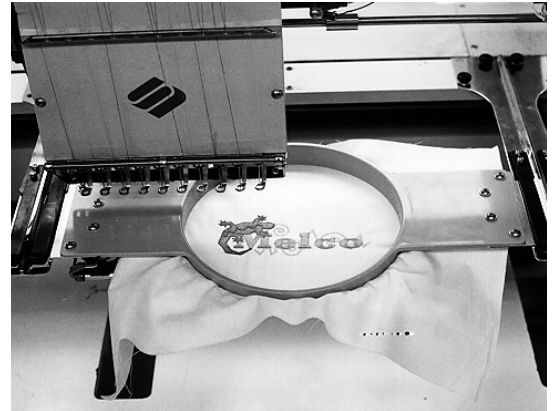

Figure 3-9
1. Attach the tubular frame support arms to the rear portion of the sash frame. Use four thumb screws for each support arm (refer to Figure 3-9).